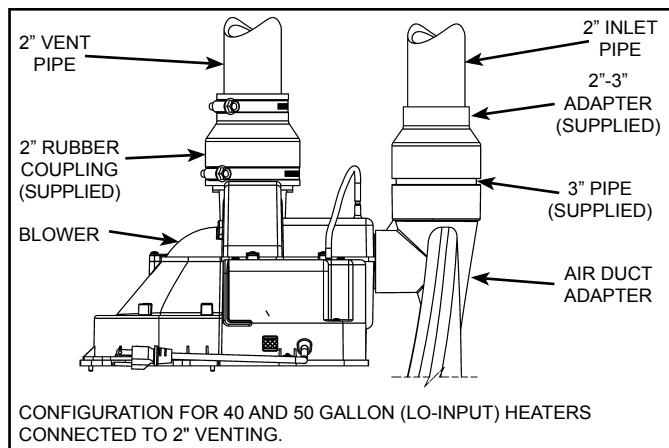

Figure 44.
4. Make sure that the plastic tubing is still attached from the air pressure switch to the port on the blower motor housing. Make sure the plastic tubing is not folded anywhere between the pressure switch and the blower motor housing (see Figure 44 thru Figure 48).
- Important:** These connections must be properly seated and tightened to prevent the leakage of flue gases into the area. See Figure 44 thru Figure 48.